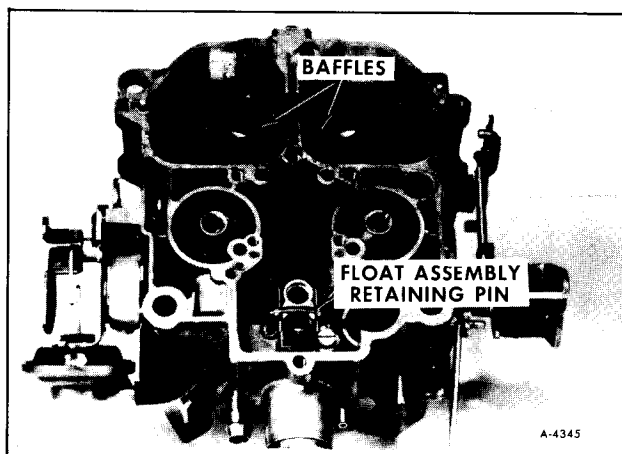

Figure 16—Float Assembly
7. Remove float assembly and float needle by pulling up on retaining pin. Remove float needle seat and gasket (figure 16).